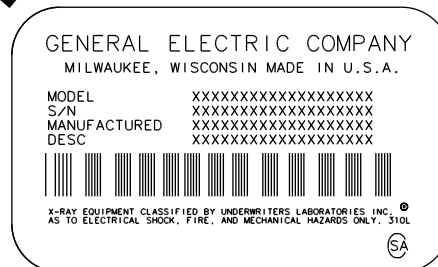

Figure 2-18 Apply rating plate
- a. Apply the rating plate label to front cover, next to the power cord area. See Figure 2-18.